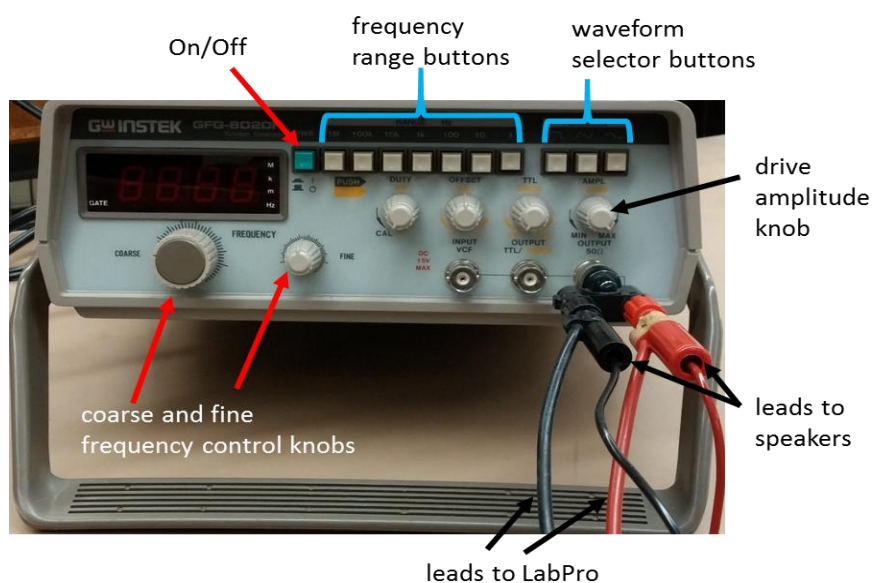

Figure 3. Function generator showing switches, knobs and leads hooked up to the low-impedance output connectors. These leads go to the drive speaker.
- (1) Verify that the low impedance output from the function generator is plugged into the speaker (see Figure 3) and that another set of black and red voltage probe leads are connected from the function generator to the LabPro interface box.
- (2) Turn on the function generator, push the amplitude knob in and set the amplitude to its maximum setting; this should produce about a 1V driving amplitude. **Do not change the amplitude knob after this step.**
Push the “1” frequency range button (see Figure 3). Finally, push in the sine waveform button if it is not already pushed in.
- (3) Turn the coarse frequency adjustment knob to set the driving frequency to about $f = 1.2$ Hz or 1200 mHz (note there is a bit of a delay when you turn the knob), then use the fine frequency knob (see Figure 3) to get as close to 1.2 Hz as possible.
- (4) Verify that the speaker is moving back and forth by about 1-2 mm and the cart is also moving as the speaker moves (about half as much as the speaker). If the speaker is not moving, check that